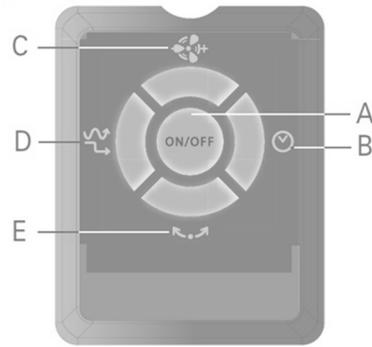

FIG. 10 ~ Remote Control
**A. On/Off** ~ Press once to turn on the unit and press again to turn off. For control panel diagrams, refer to Figs 10 & 11 on Page 7.